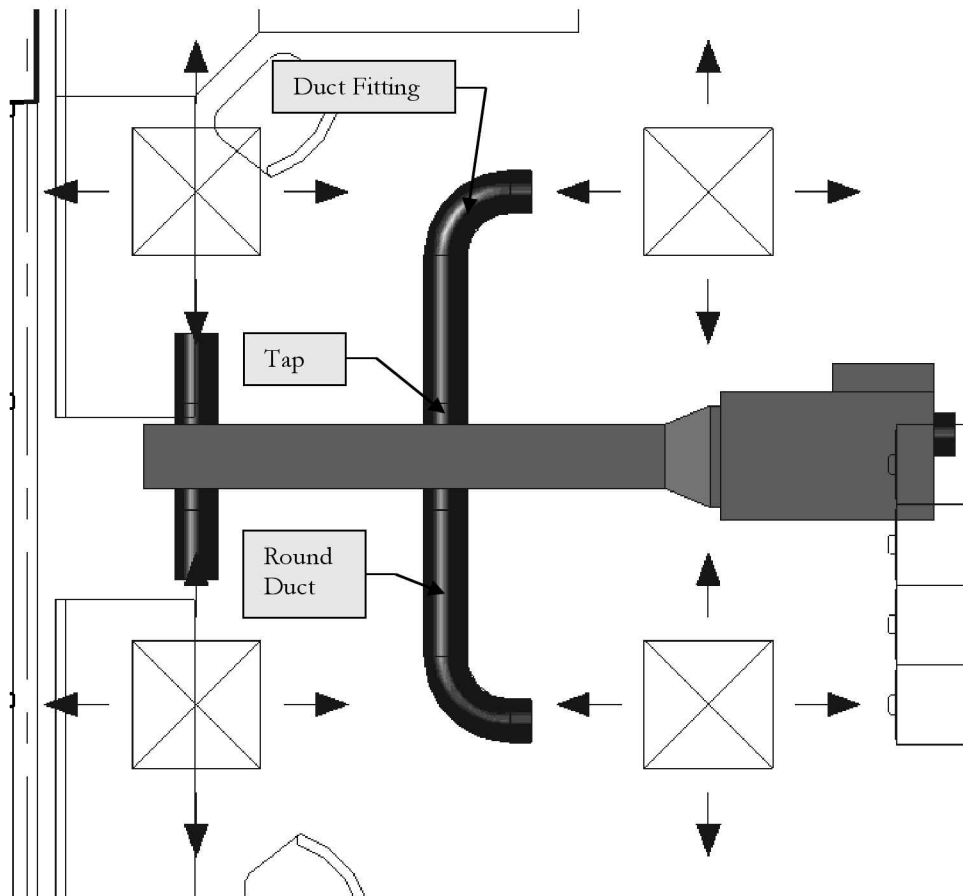

FIGURE 13-4.11 Mirrored “branch” ductwork about the VAV box
36. **Select** the branch ductwork, including the round ducts, taps and fittings (Figure 13-4.11).